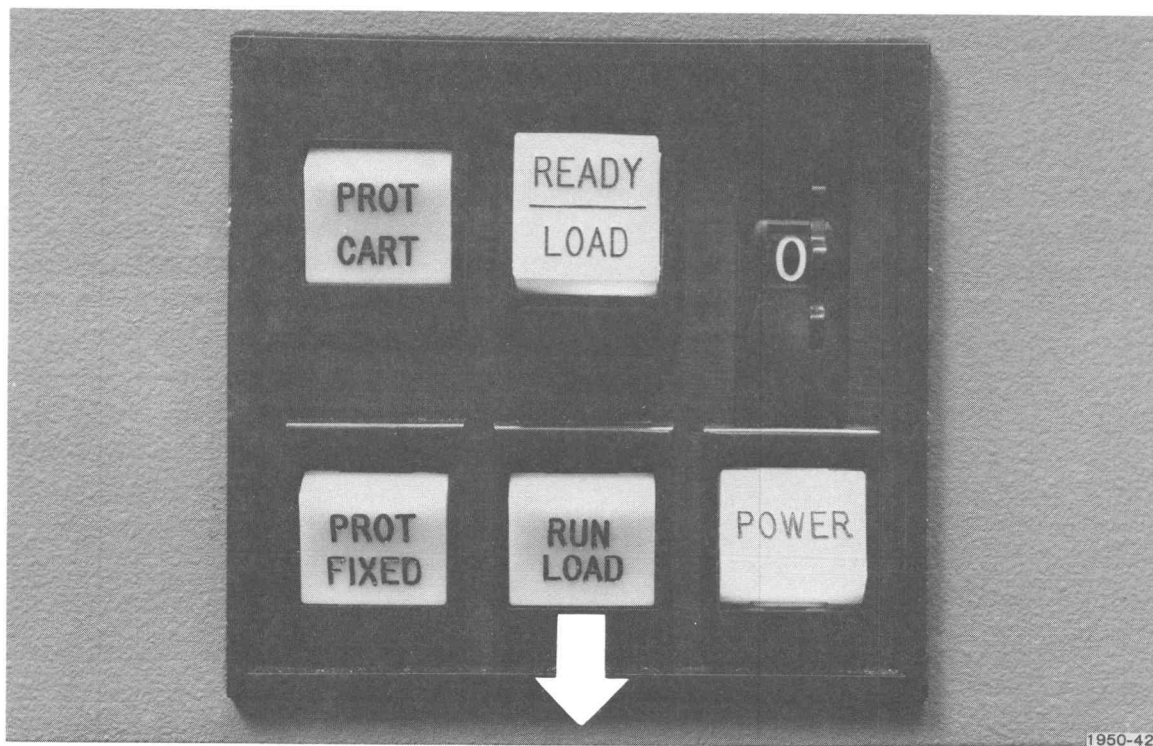

Fig. 8-17. The lower half of the READY/LOAD indicator light must be lit before inserting the hard disc cartridge.
2. Press the lower half of the RUN/LOAD switch located to the left of the POWER switch. The switch should be depressed in the LOAD position. Wait approximately 25 seconds until the LOAD half (the lower half) of the white READY/LOAD indicator light is lit (Fig. 8-17).